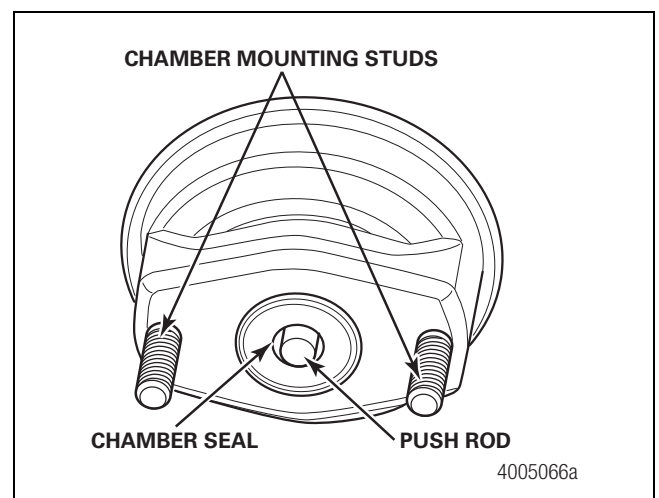

Figure 8.2
3. With the air chamber removed, visually inspect the chamber mounting studs. Figure 8.2.
4. Visually inspect the chamber push rod and chamber seal on the chamber. Figure 8.2.